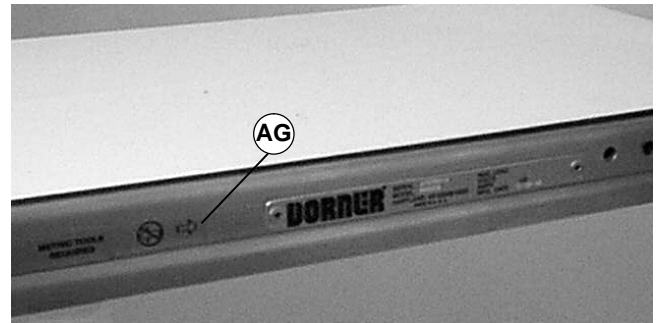
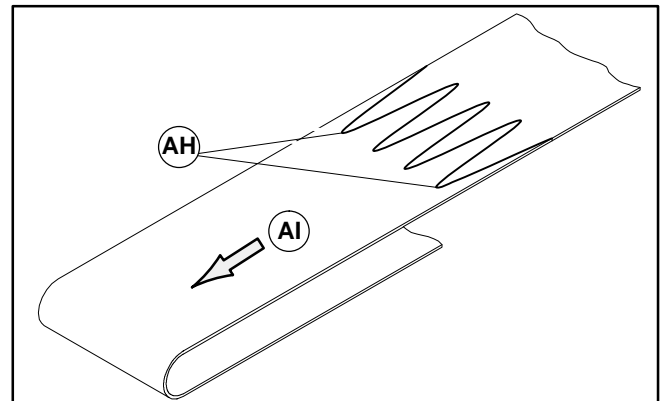

Figure 25
Figure 26
**IMPORTANT:** On a flat belt conveyor, the wiper is installed on discharge end. Belt travel direction is identified by an arrow decal on the side of the conveyor (AG of Figure 25). With a reversing gearmotor, a second bottom wiper must be installed on opposite end.
1. Orient the conveyor belt so that the splice leading fingers (AH of Figure 26) point in the direction of belt travel (AI) as identified by the label (AG of Figure 25).